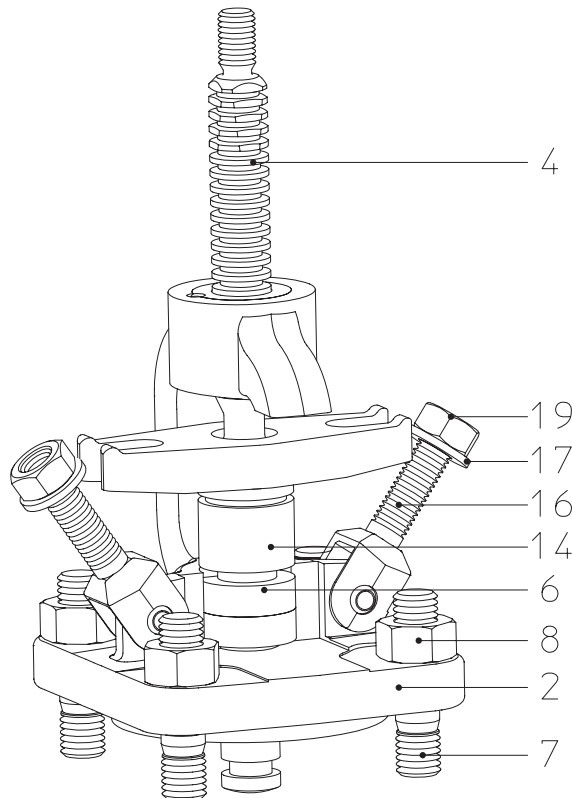

fig. 8: Pattern with hinged bolts
If necessary, renew packing in stuffing box seal (pos. 6). Observe warnings (fig. 8)!